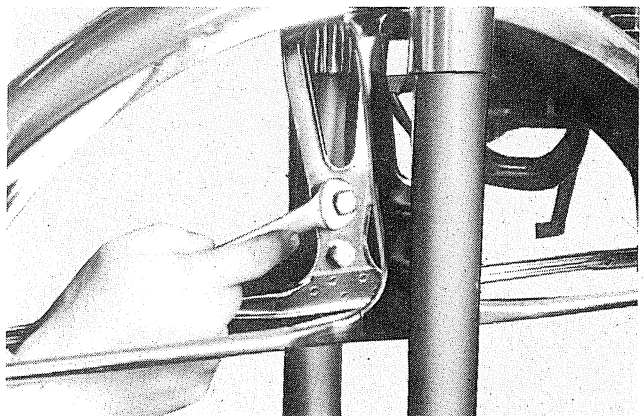

Fig. 4-3-1
- 1) Remove the front fender, and remove the inner tube mounting bolt. (Figs. 4-3-1 and 2)